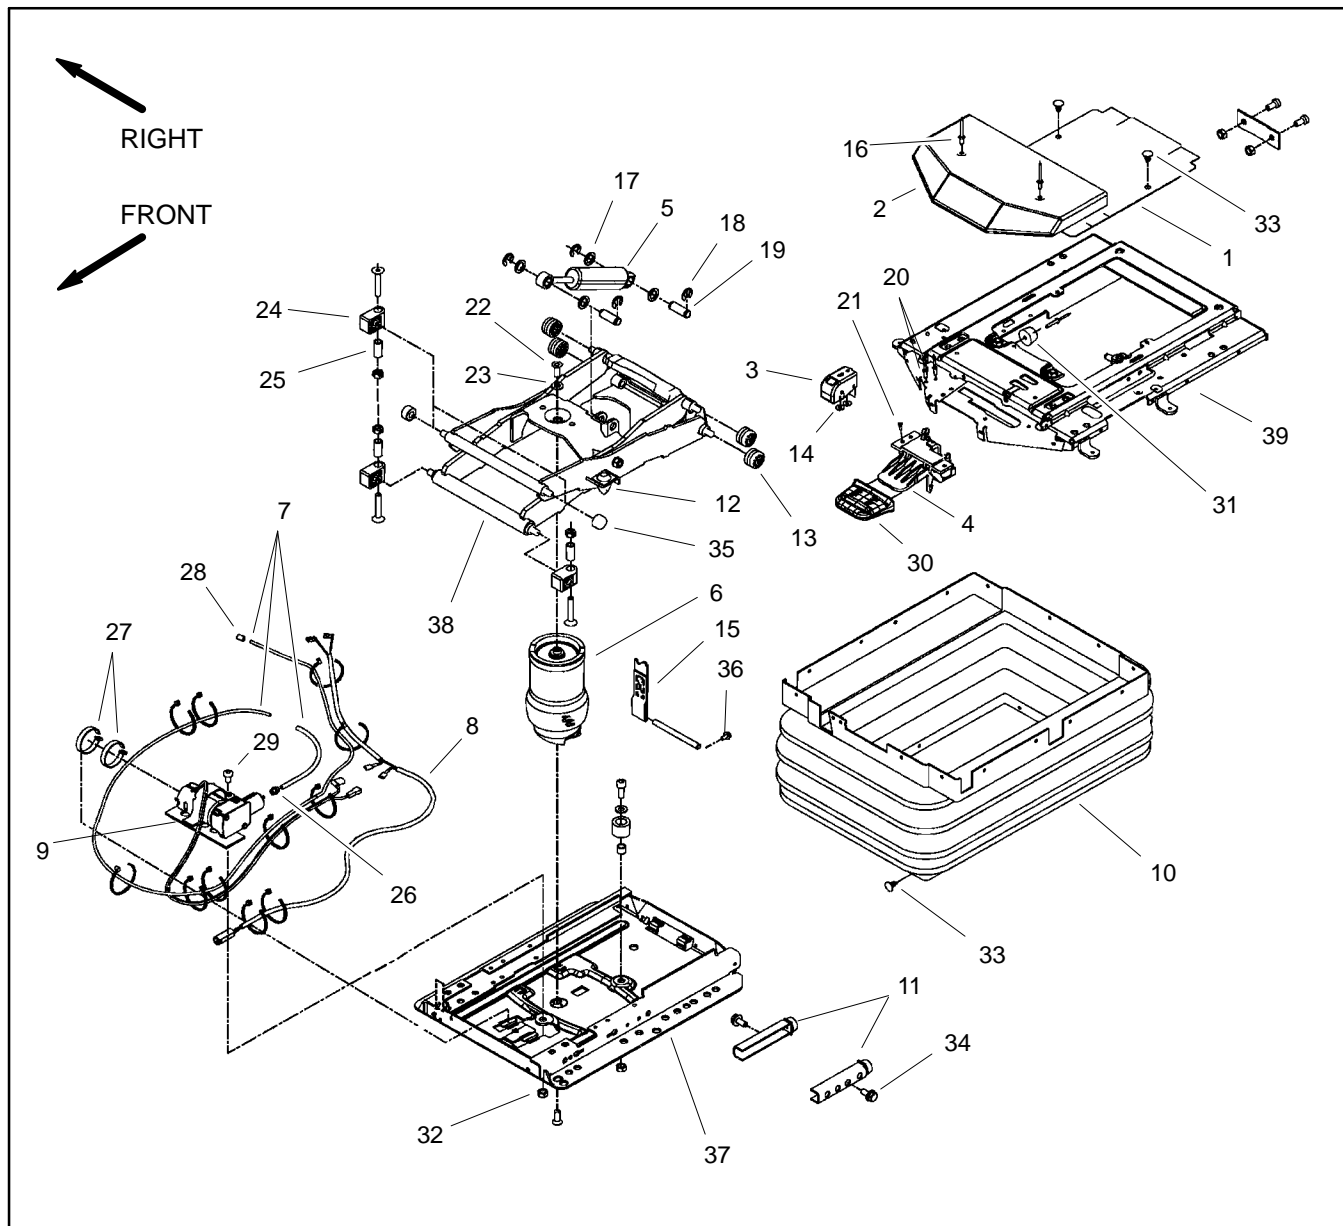
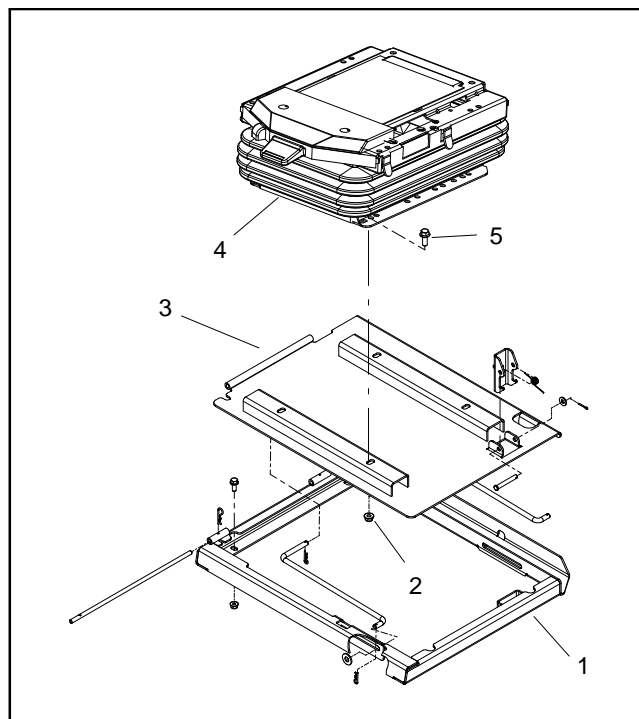

Figure 15
Figure 16
### Disassembly (Fig. 15)
4. If the air spring assembly (item 6) or base plate (item 37) requires removal, remove seat suspension from seat plate (Fig. 16):
B. Remove four (4) flange head screws and flange nuts that secure seat suspension to seat plate.
5. Remove seat suspension components as needed using Figure 15 as a guide.
### Assembly (Fig. 15)
1. Install all removed seat suspension components using Figure 15 as a guide.
2. If seat suspension was removed from seat platform (Fig. 16):
- B. Secure seat suspension to seat plate with four (4) flange head screws and flange nuts.